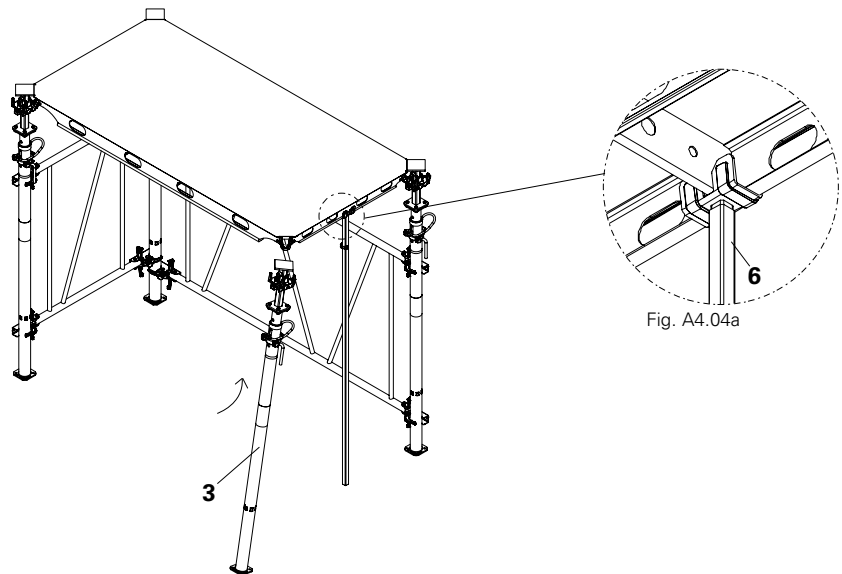

Fig. A4.04
- 8. While the shuttering aid is supporting, attach the fourth prop (3) to the panel corner. (Fig. A4.04)